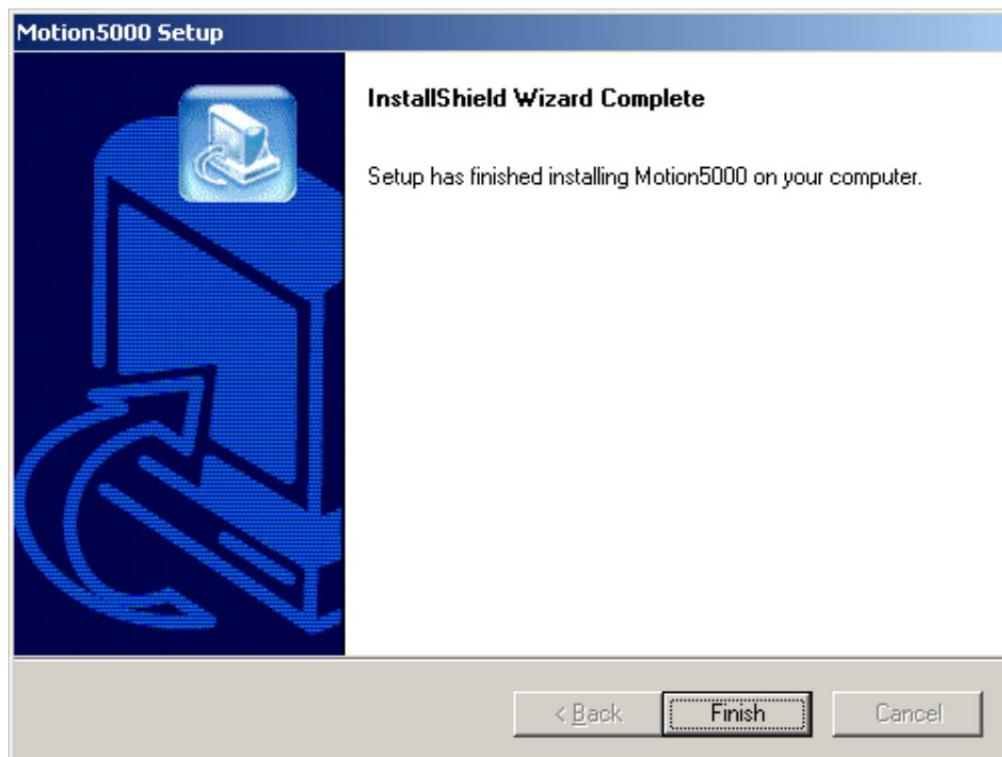

Figure 6-7 Installation completed
7. After the installation is complete, the system will pop up the prompt shown in Figure 6-7, indicating that the installation process has been completed;